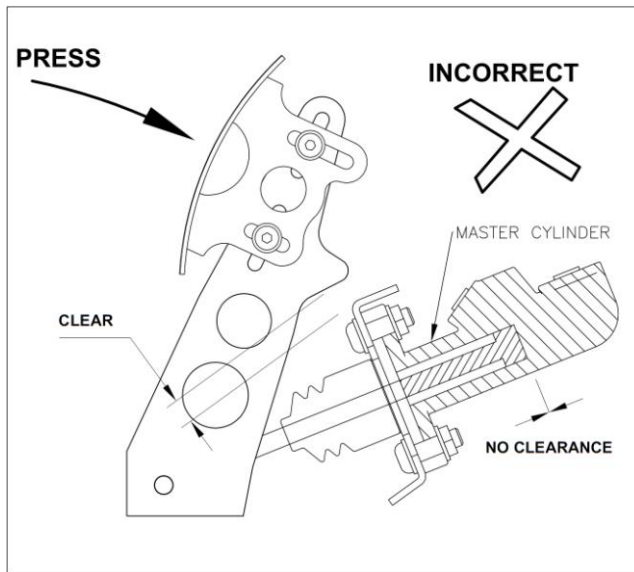

Figure 11 Incorrect Position
- In all cases, **ensure the cylinders do not bottom out before their respective inbuilt pedal stop positions. (refer to Figure 11 & 12)**
- Precautions should be taken to set up the clutch pedal correctly, as clutch over travel may damage your clutch cylinder. (refer to figure 11 & 12)